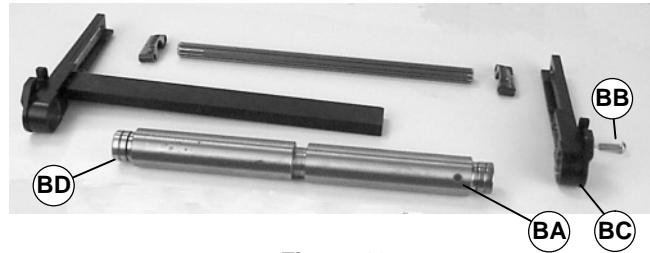

Figure 41
4. Locate magnet (BA of Figure 41). Remove screw (BB).